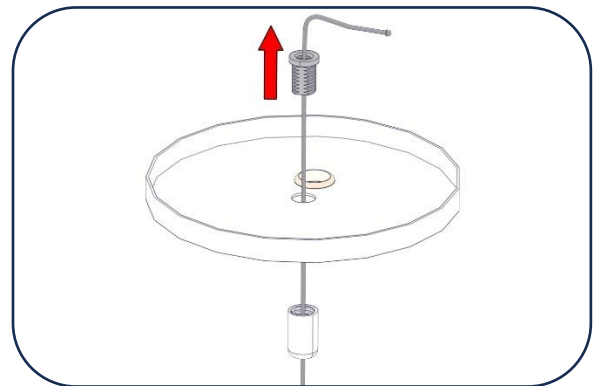

Figure 7
15. Pull the **Aircraft Cable** attached to Side A of the starter fixture through the center hole of **Canopy A**. [Figure 7]